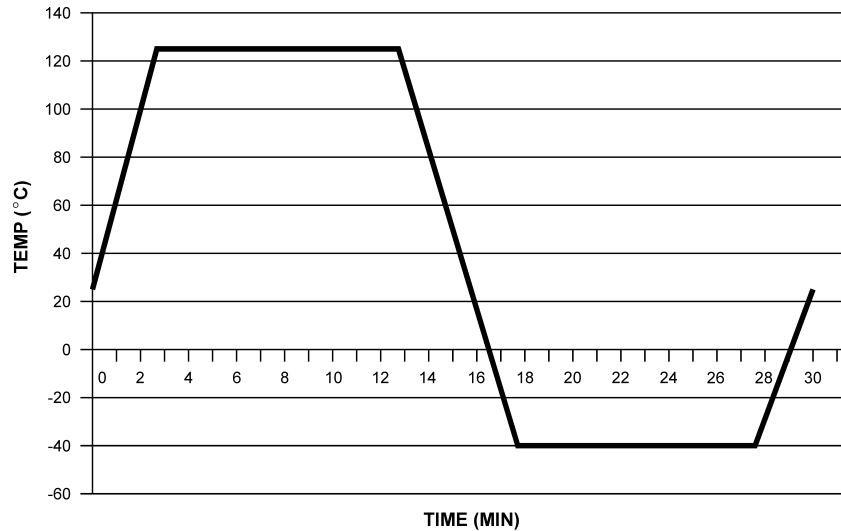
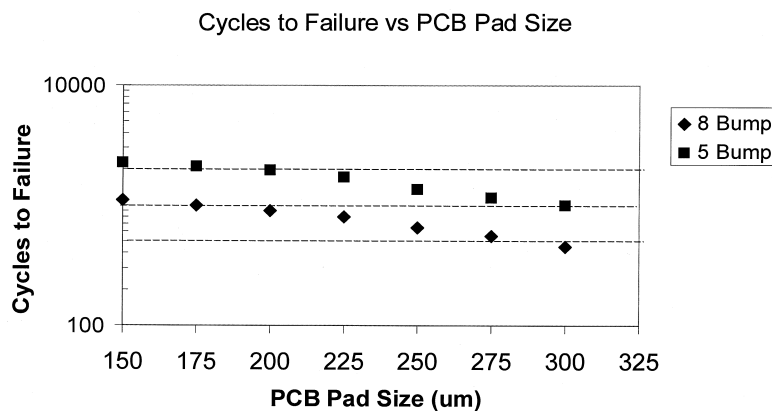

Figure 3. Thermal cycling profile specified for the -40 to 125°C profile with 5 minute ramp and 10 minute hold times.
Figure 4. Impact of PCB Pad Size on Reliability for 0.17 mm Bump Package
1. TEMPERATURE CYCLING: Testing performed per IPC-SM-785 Guidelines for Accelerated Reliability Testing of Surface Mount Solder Attachments. The results of this testing after following the above mentioned assembly conditions described here are shown in Figure 3, Figure 4, Table 6, Table 7 and Table 9.